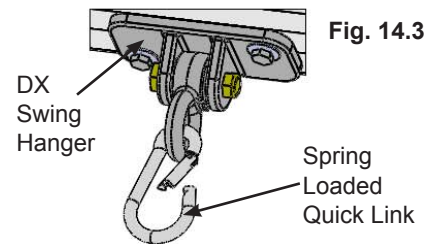

Fig. 14.3
**B:** Attach 1 Spring Loaded Quick Link to each Heavy Duty Swing Hanger. (fig. 14.3)